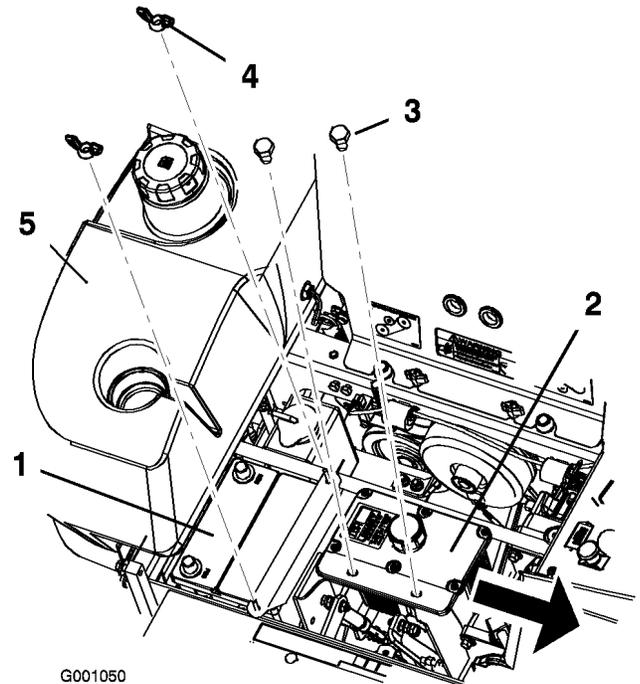

Figure 44
6. Remove both wing nuts (1/4 inch) securing the battery clamp (Figure 44).
7. Remove the two bolts holding the hydraulic tank in place (Figure 44).
1. Position battery in the tray with the terminal posts opposite from the hydraulic tank (Figure 44).
6. Secure battery with J-bolts, hold down clamp and 2 washers (1/4 inch), and 2 wing nuts (1/4 inch) (Figure 44).